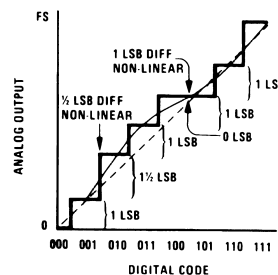

**Figure 5. DAC Transfer Curve,  $\frac{1}{2}$  LSB Offset at Zero**
**Offset Error** (zero error) is the output voltage of a DAC with zero code input, or it is the required mean value of input voltage of an ADC to set zero code out. (See Figure 5.) Offset error is usually caused by amplifier or comparator input offset voltage or current; it can usually be trimmed to zero with an offset zero adjust potentiometer external to the DAC or ADC. Offset error may be expressed in % FS or in fractional LSB.